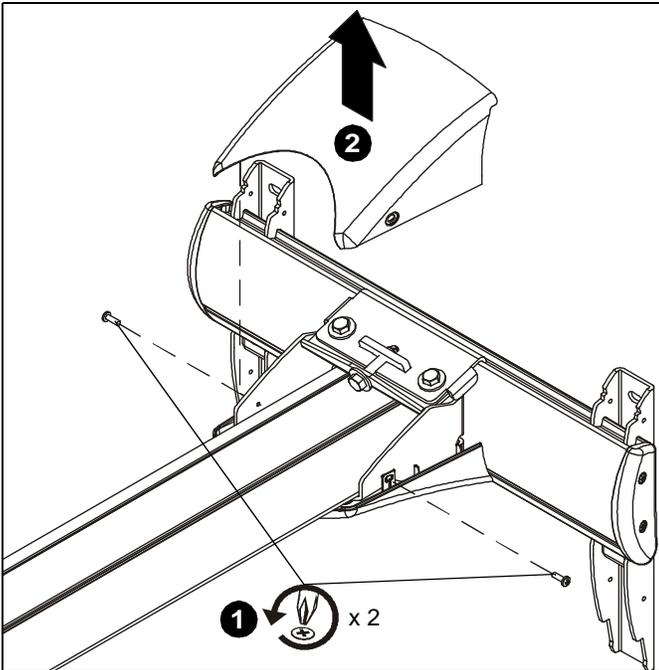

Figure 4
1. Remove two Phillips pan head screws from upper cover. (See Figure 4)
2. Raise upper cover away from the mount. (See Figure 4)